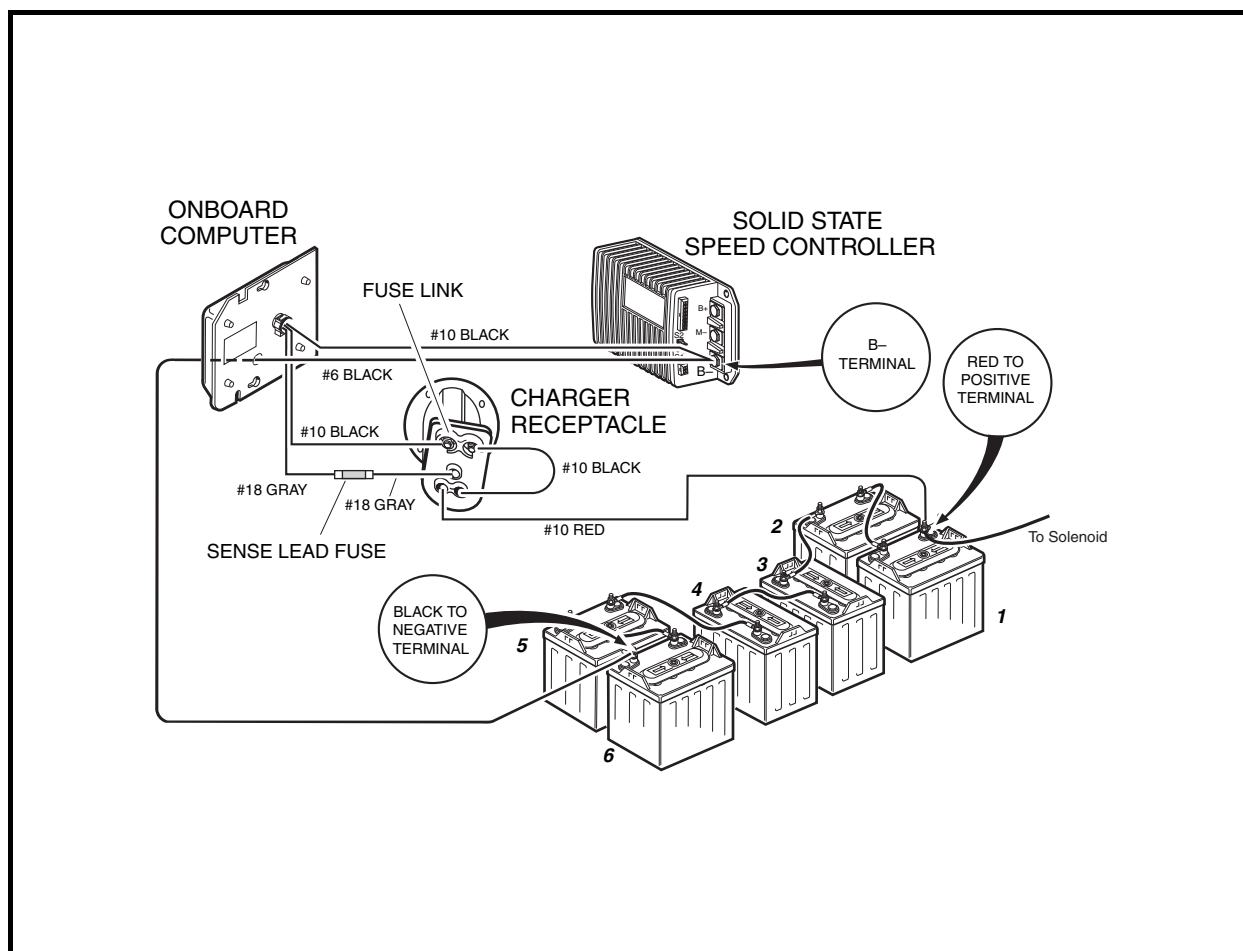
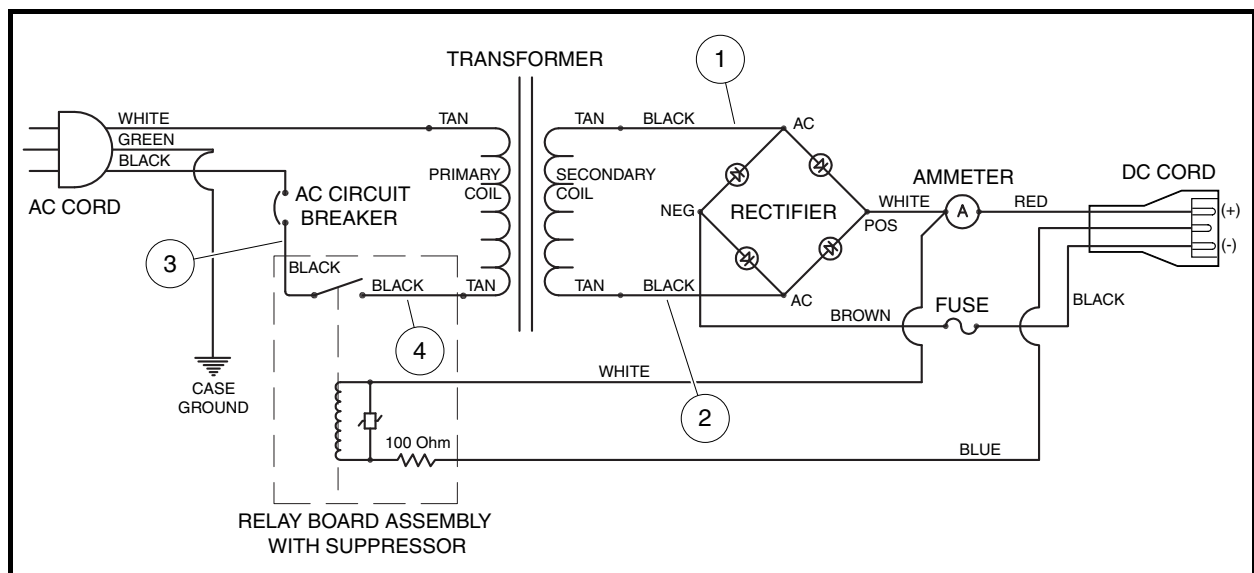
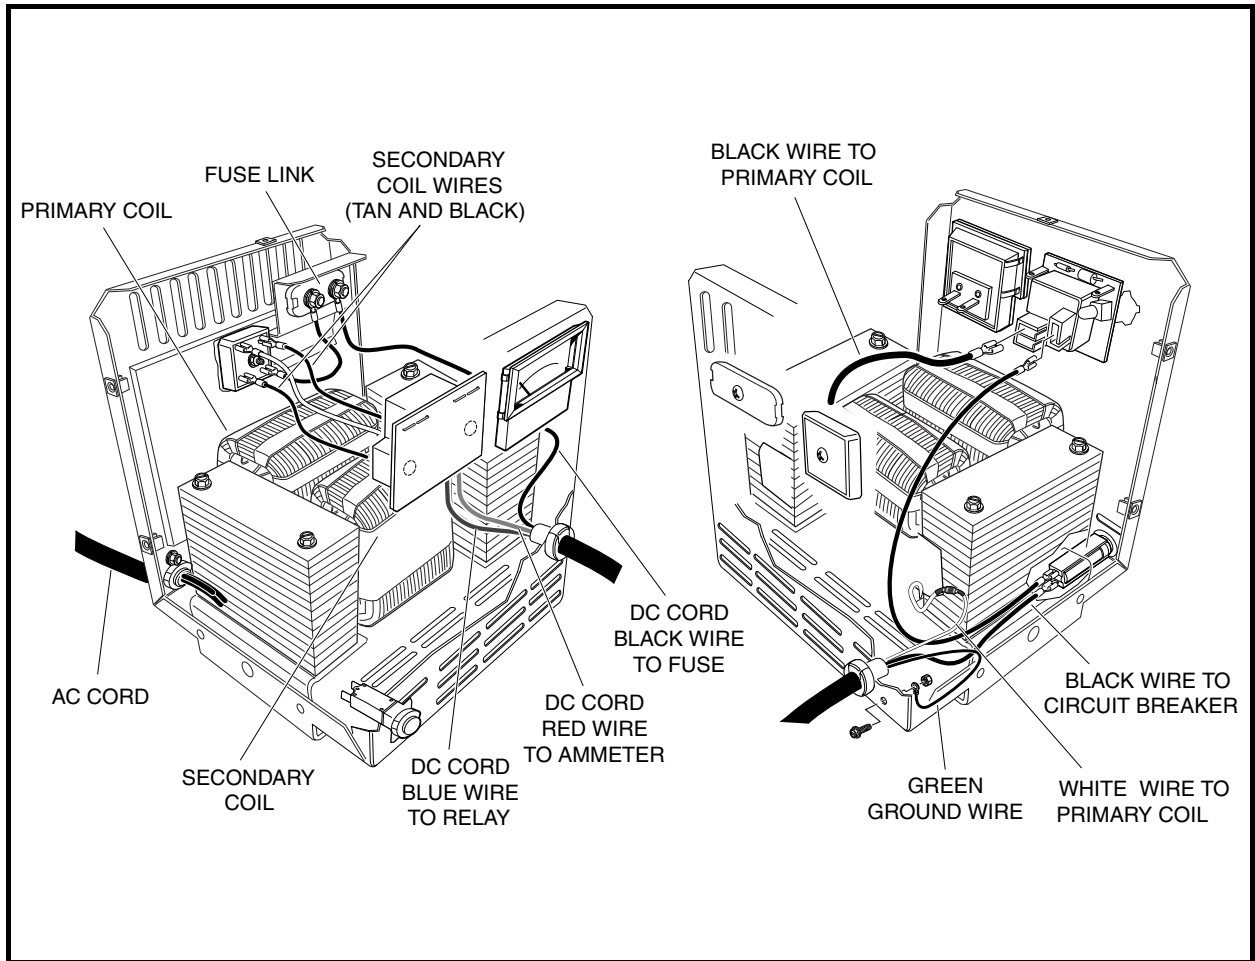

Figure 6-3 Charge Circuit and Battery Configuration – 6 x 8-Volt Turf 1 and Carryall 1 Vehicles
Figure 6-9 PowerDrive 3 Battery Charger Wiring Diagram (External Charger)
Figure 6-10 PowerDrive 3 Battery Charger Components – Model 26560
The negative terminal of the receptacle is connected to the onboard computer (**Figure 6-3, Page 6-4**). The 10-gauge black wire from the onboard computer connects to the B– terminal on the speed controller, and the 6-gauge black wire (also on the controller B– terminal) goes through the onboard computer and connects to the negative (–) post of battery no. 6. The positive terminal of the charger receptacle is connected to the positive (+) post of battery no. 1. The gray wire (sense lead) from the charger receptacle is connected to the sense lead fuse, which is connected to the gray wire from the onboard computer.
3. If the charger does not operate exactly as described above, refer to the wiring diagram and make sure that the vehicle is wired correctly (**Figure 6-3, Page 6-4**) and that the internal charger wiring is correct (**Figure 6-9, Page 6-11**).
- Knowledge of battery charger wiring and component terminology is required before attempting any repair (Figure 6-9, Page 6-11 and Figure 6-10, Page 6-15).